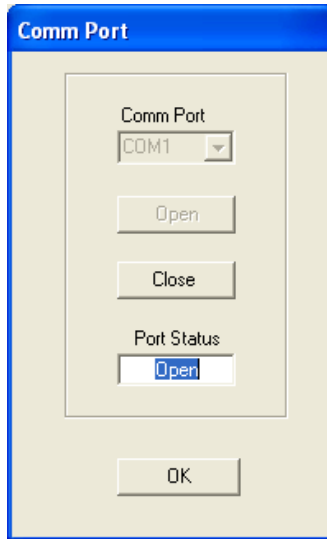

Figure 2. Comm Port Menu
5. Verify that the *Comm Port* menu opens as shown in figure 2.